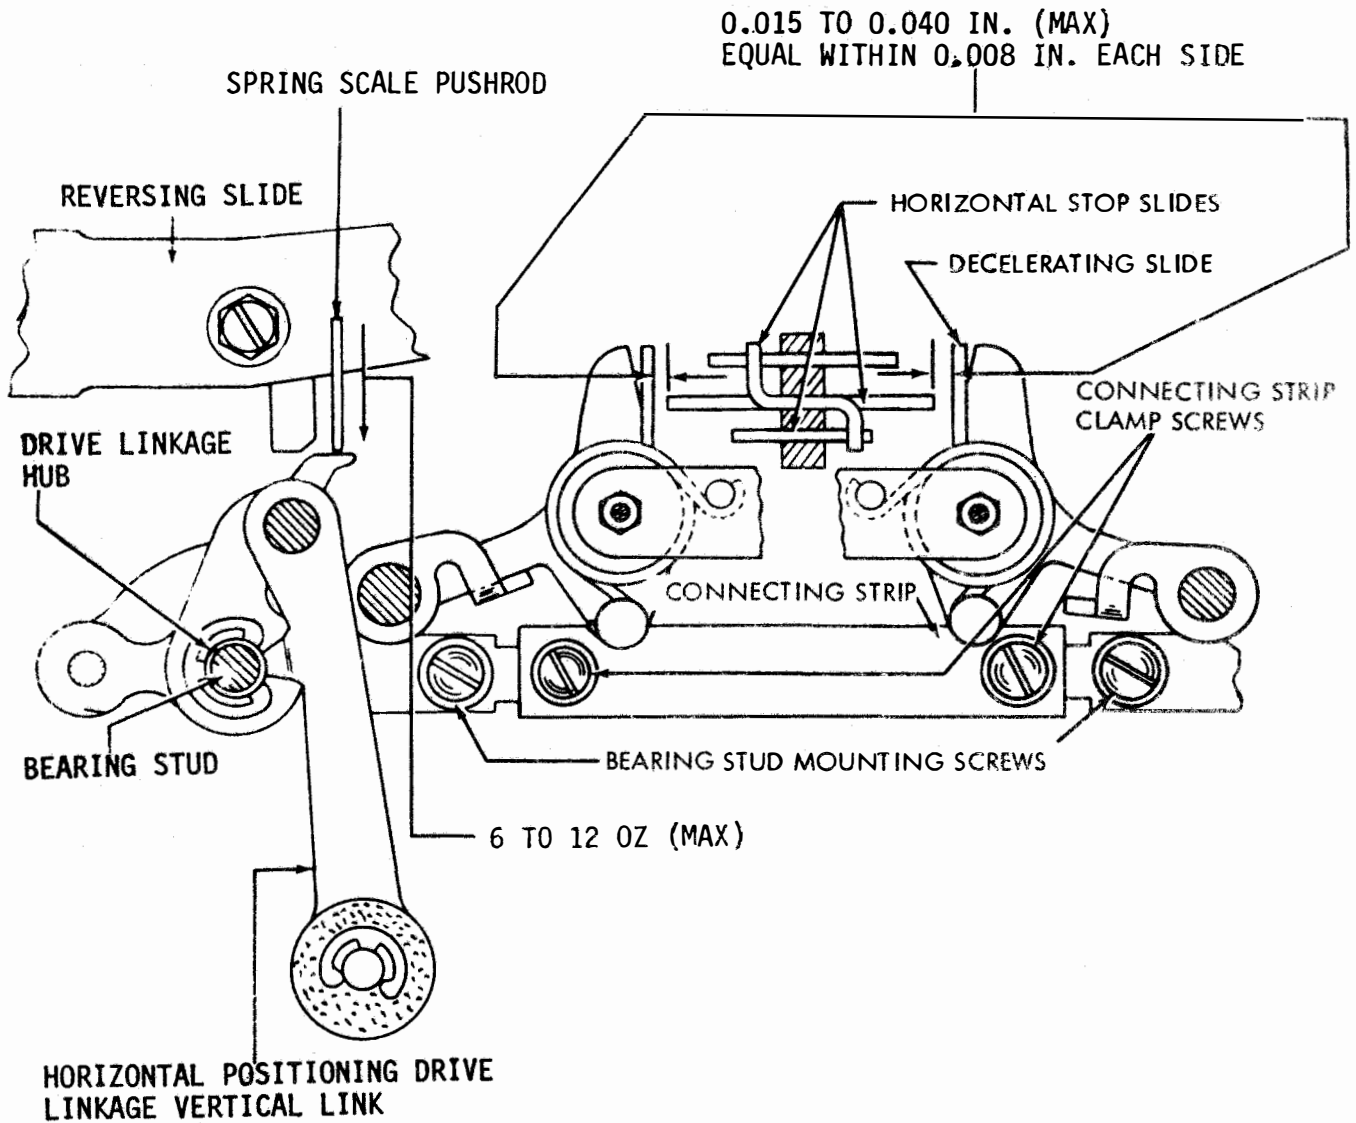

Figure 6-552. Horizontal Positioning Drive Linkage and Drive Linkage Torsion Spring with Earlier Design Drive Linkage and Torsion Springs, Front View
(3) Horizontal Positioning Drive Linkage with Earlier Design Drive Linkage and Torsion Springs. Adjust as follows:
- (a) Refer to Figure 6-552.
(4) Horizontal Positioning Drive Linkage Torsion Spring. Adjust as follows:
(5) Shift Linkage Spring. Adjust as follows: